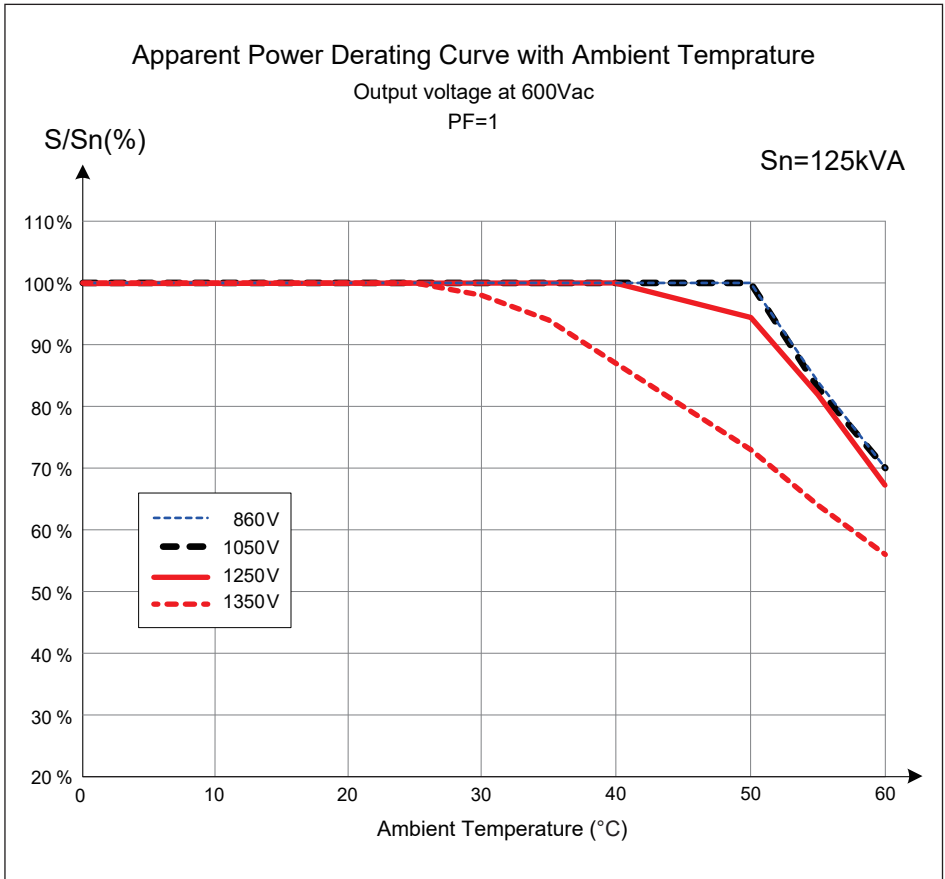

Figure 7-4: Apparent Power Derating Curve with Ambient Temperature (PF=1)
- Power will derate when ambient temperature is over 50°C. Derating curve is shown in **Figure 7-4**.